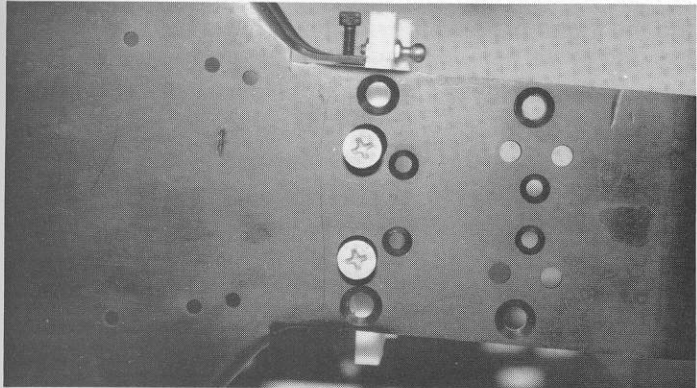

**Fig. 79**
□ **Fig. 79** Remove two #6273 long steel ball ends from bag #6-14. We are going to install these into the rear bulkhead from the back side. There are five mounting holes on each side of the bulkhead for the tie-rod locations. You are going to use the middle of the top three holes as shown.